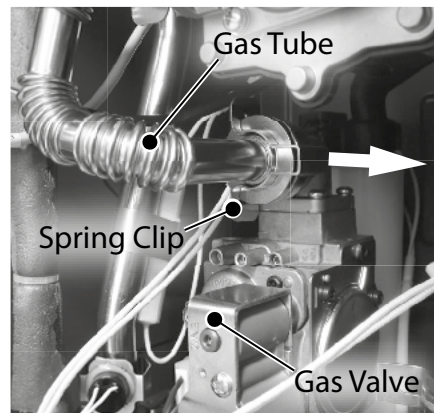

Figure 6 - Remove gas tube spring clip
- 18** Locate the gas tube connecting the venturi assembly to the gas valve as shown in Figure 6. Note the orientation of the spring clip securing the gas tube to the gas valve. Remove spring clip and place it aside in a safe place for reinstallation. Leave the gas tube connected to gas valve. This will provide support when removing the fan assembly screws.